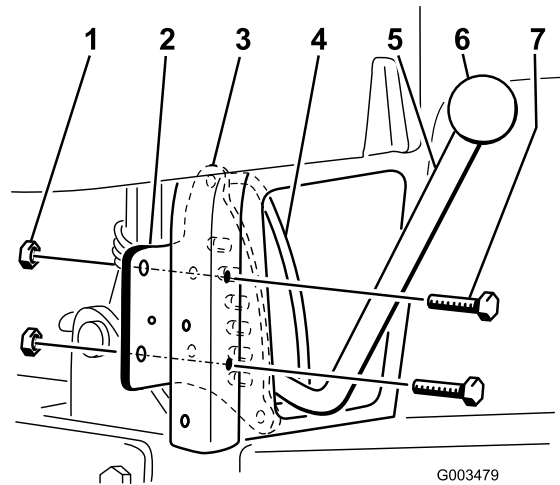

Figure 3
- Insert the detent plate onto the scarifier lift handle. The handle should pass between the detent plate and the handle guide (Figure 3).
- Install the detent plate to the back of right rear vertical frame tube with 2 bolts (5/16 x 2-1/2 inch) and 2 locknuts (5/16 inch), as shown in Figure 3. (Remove in Step 1, procedure 3.)
- Thread the knob onto the lift handle (Figure 3).